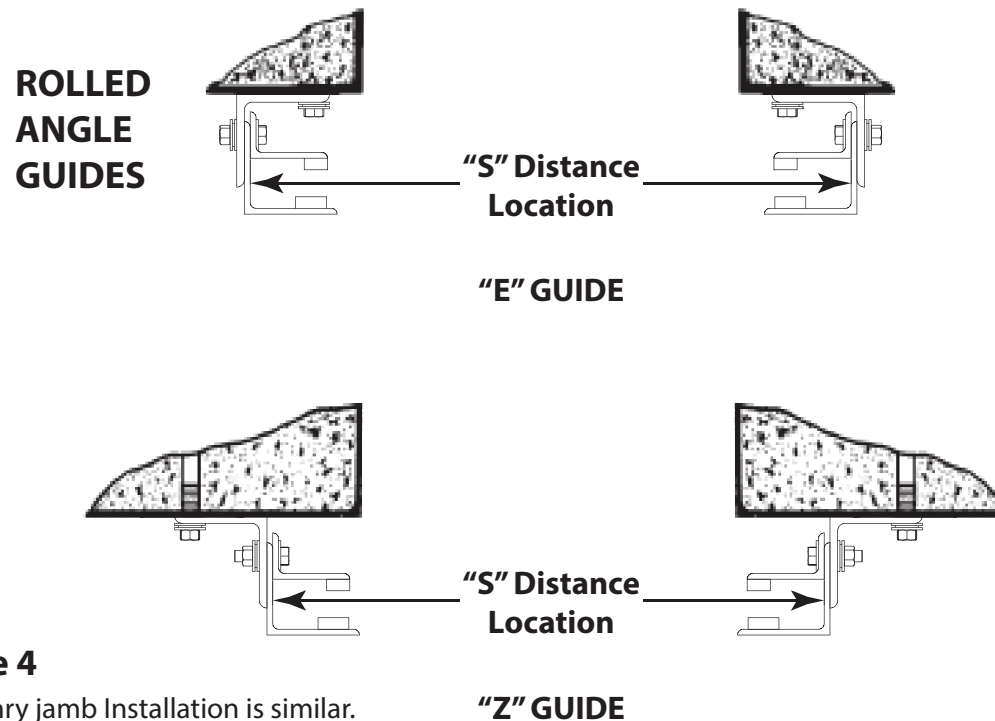

Figure 4
- Locate the guide assemblies such that the "S" dimension exists between the guides, as shown in Figure 4.